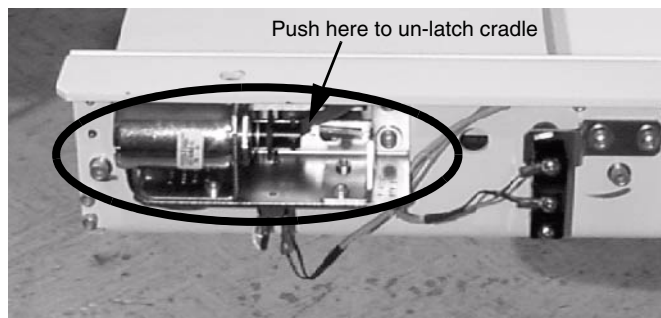

Figure 1-24 Unlatch Cradle
- 6.) Push the plunger on the right rear of the table to unlatch the cradle (refer to Figure 1-24).